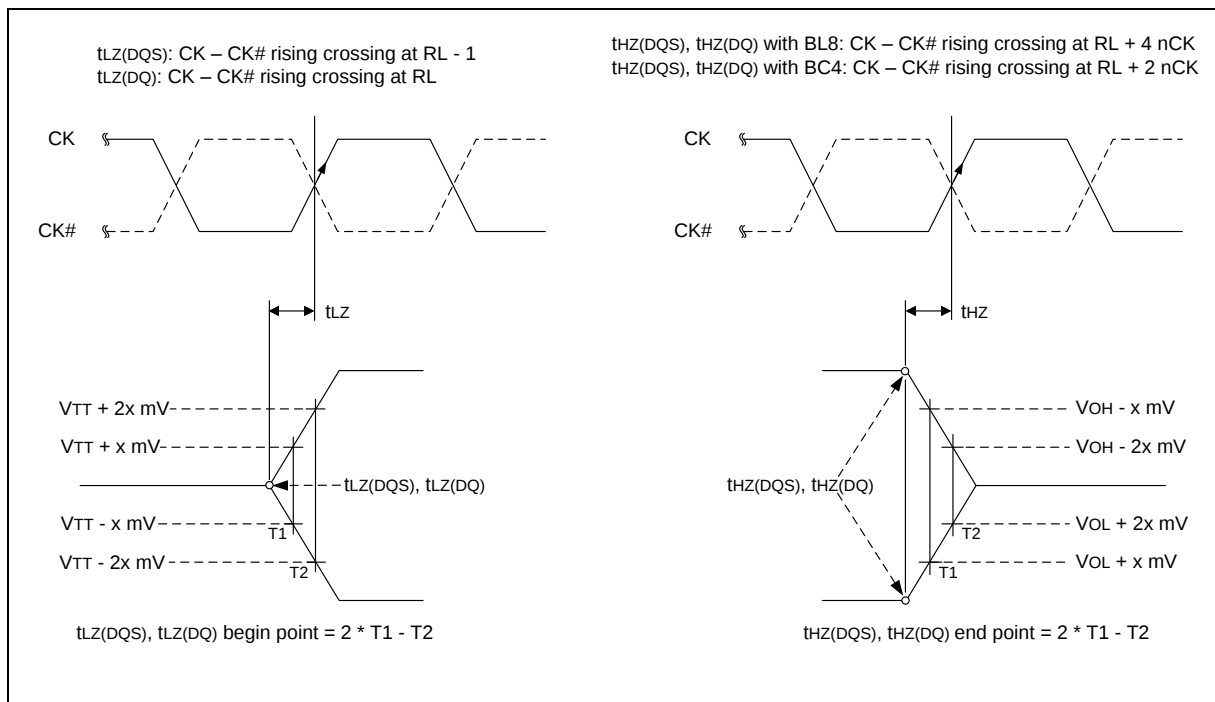

Figure 26 – tLZ and tHZ method for calculating transitions and endpoints
$tLZ(DQS)$ ,  $tHZ(DQS)$  for preamble/postamble (see section 8.13.2.3 and Figure 26).
tHZ and tLZ transitions occur in the same time window as valid data transitions. These parameters are referenced to a specific voltage level that specifies when the device output is no longer driving tHZ(DQS) and tHZ(DQ), or begins driving tLZ(DQS), tLZ(DQ). Figure 26 shows a method to calculate the point when the device is no longer driving tHZ(DQS) and tHZ(DQ), or begins driving tLZ(DQS), tLZ(DQ), by measuring the signal at two different voltages. The actual voltage measurement points are not critical as long as the calculation is consistent. The parameters tLZ(DQS), tLZ(DQ), tHZ(DQS), and tHZ(DQ) are defined as singled ended.